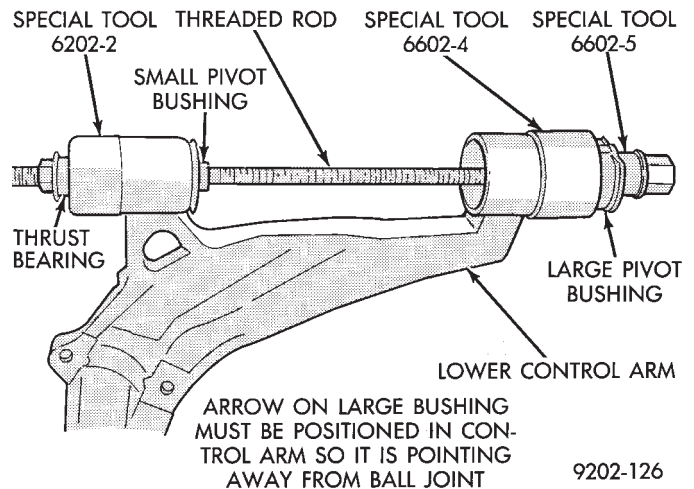
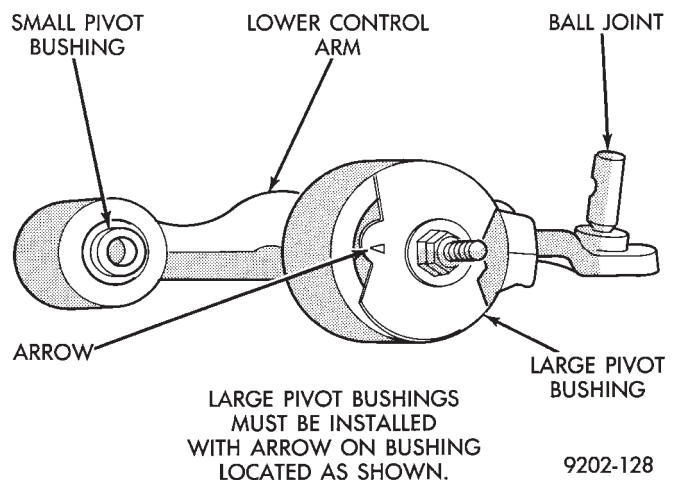

Fig. 10 Bushing And Tool Position For Installation In Control Arm
Fig. 11 Positioning Control Arm Bushing
(3) Install the pieces assembled in step 2 through the hole in the small pivot bushing and the large pivot bushing hole in the lower control arm. At the large pivot bushing hole in the lower control arm assemble the following special tool pieces. Large Bushing Sizer, Special Tool 6602-4, large lower control arm pivot bushing, large bushing disc Special Tool 6602-5, thrust bearing, washer and nut (Fig. 10). Lubricate the installer cone and new bushing using Mopar® Silicone Spray Lube or equivalent.
(4) Hold the threaded rod stationary and turn the long nut until the bushing is fully installed into the control arm. Be sure that the flanges of the bushing are fully expanded around the control arm bushing holes.
(5) If the position of the large lower control arm pivot bushing (Fig. 11) moved during bushing installation. Install a nut and bolt through the bushing sleeve and tighten it down (Fig. 11). Using a wrench rotate the bolt until the bushing is in the correct position (Fig. 10)